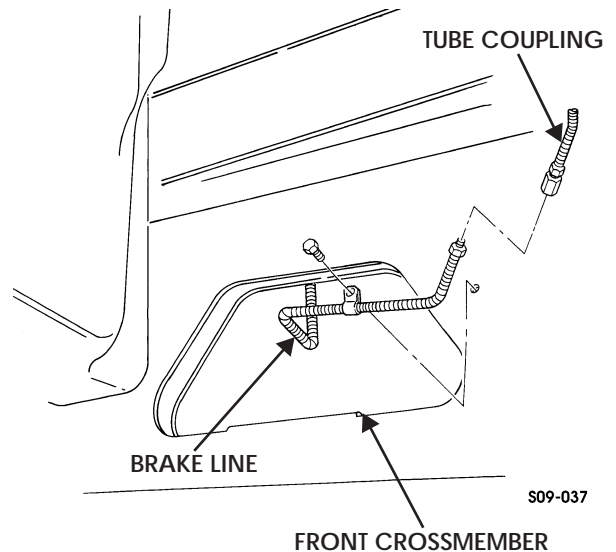
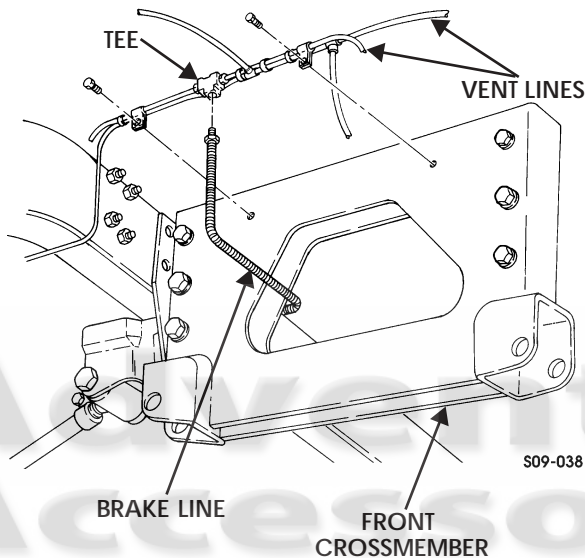

Figure 9-49: Brake Line and Tube Coupling
Figure 9-50: Brake Line and Vent Lines
5. Remove three capscrews and clamps securing brake line and two vent lines to front crossmember (Figures 9-49 and 9-50).
5. Install brake line on tee and tube coupling (Figure 9-49) and (Figure 9-50).